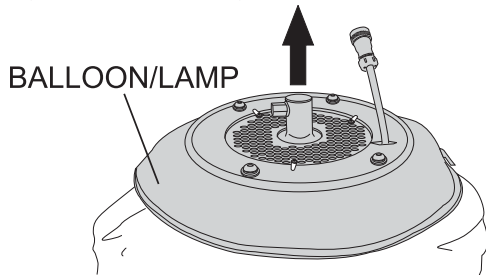

Figure 40. Balloon/Lamp Placement
3. Rotate the balloon/lamp base assembly so that the filter is facing upwards. See Figure 40.